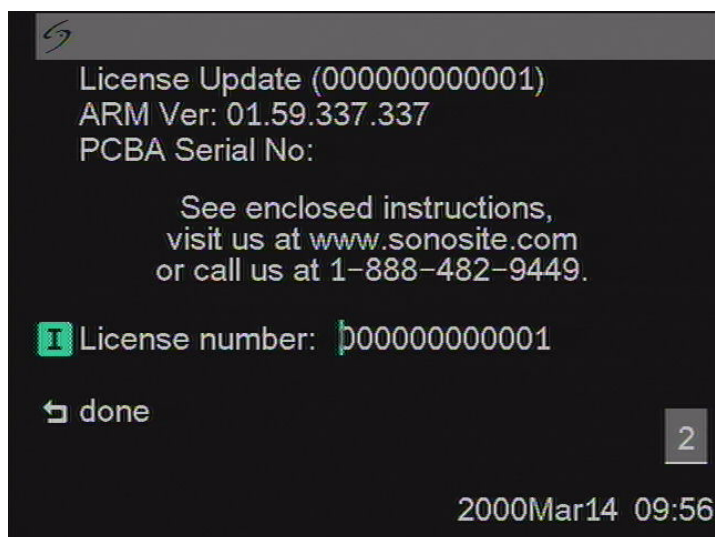

Figure 4.4 License Update Screen
1. Select the **padlock icon**. The license update screen displays (Figure 4.4).